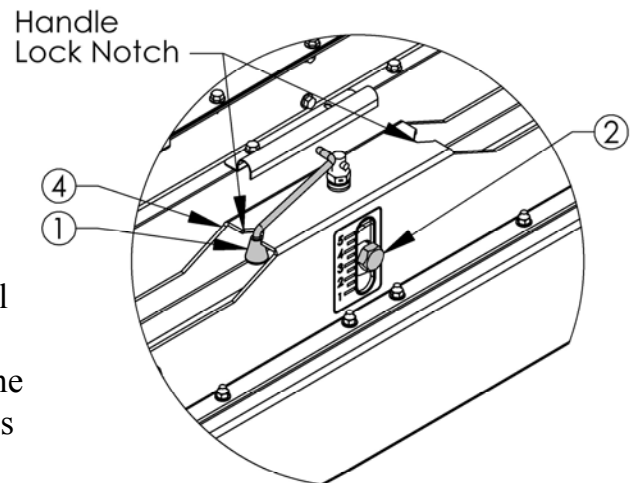

FIGURE 17.3
- Lock handle at chosen height by pivoting the handle and placing it into the notch located at either end of the Height Adjustment Housing ④. **Figure 17.3**
- Take note of the Bolt ② location on the Height indicator Decal ③.